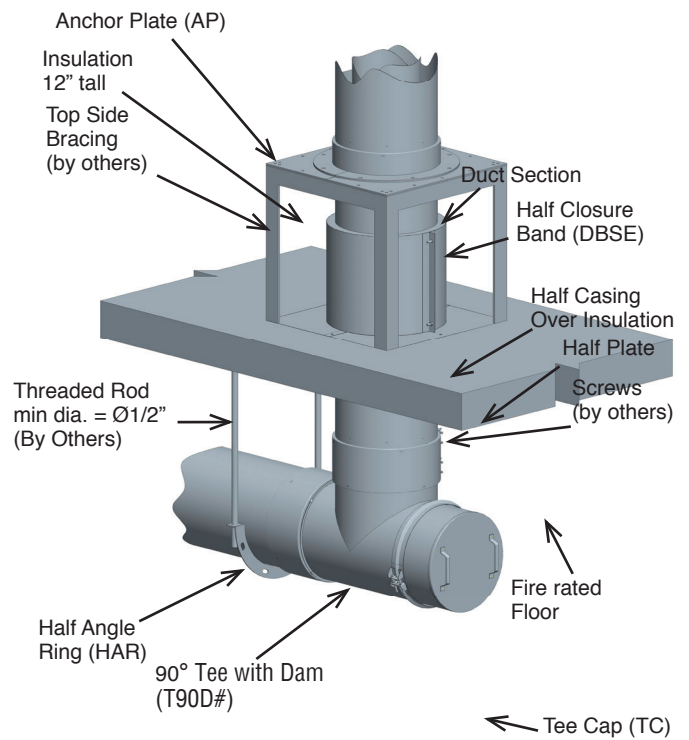
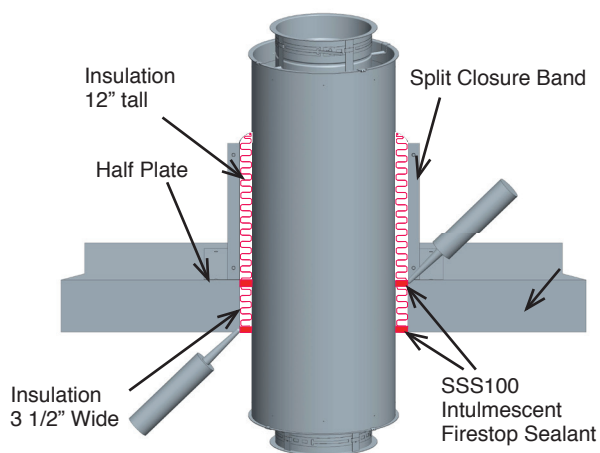

Figure 107: Supports for Duct passing through a fire-rated Floor-Ceiling (CIX3Z only)
Figure 109: Through Penetration Firestop fire-rated Floor Penetration (CIX3Z only)
Supports for ducts that penetrate a fire-resistant floor are to be positioned on the top side of the floor. Include supports as per the height limits in **Table 5** and use either an Anchor Plate (AP) or an Anchor Plate with Length (APL) installed above structural framing members as shown in **Figure 107**. Where a transition from horizontal to vertical occurs beneath a floor / ceiling assembly, support the horizontal portion beneath the floor using Half Angle Rings (HAR) with a minimum 1/2" dia. treaded rod. Install one HAR on the section adjacent to the Tee and include additional Half Angle Rings (or other, appropriate supports) for the horizontal portion of the system in accordance with **Table 7**.
NOTE:- For Floor Penetration, use one TPFK. See **Figure 109** and **Figure 107**.
4. Apply a minimum 1/2" depth of **S-TPFS** (SSS100 from SpecSeal), flush with both surfaces of the wall. See **Figure 109**.